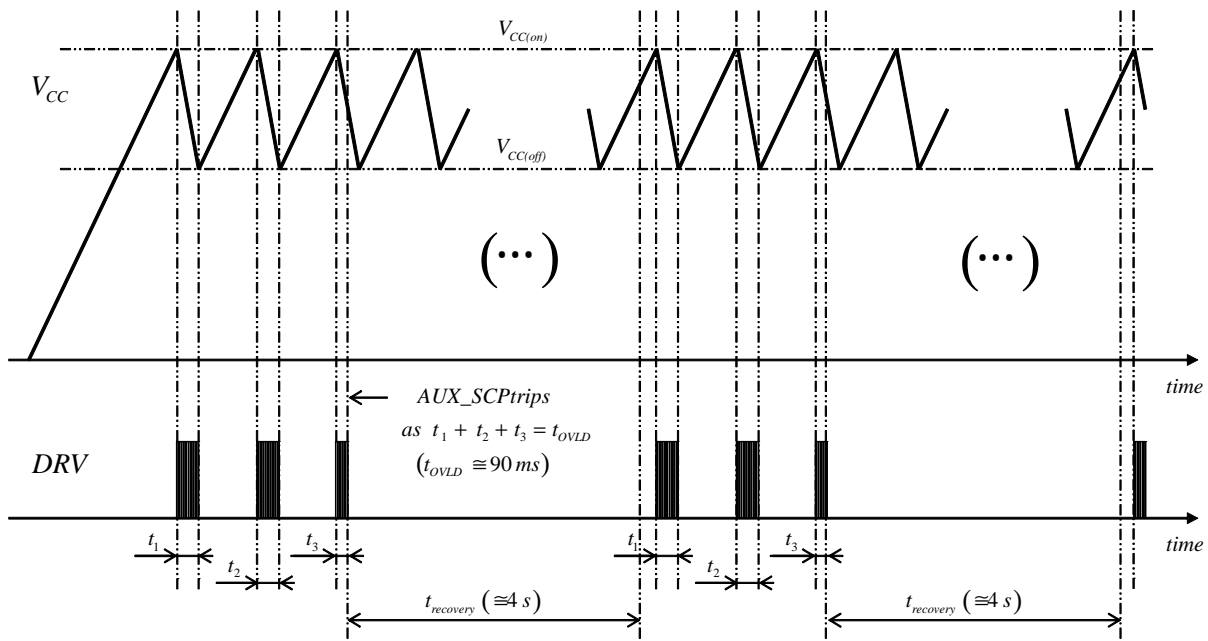

Figure 60. Start-up Sequence in a Load Short-circuit Situation (auto-recovery versions)
- If the load is shorted, the circuit will operate in hiccup mode with V_{CC} oscillating between $V_{CC(off)}$ and $V_{CC(on)}$ until the AUX_SCP protection trips (AUX_SCP is triggered if the ZCD pin voltage does not exceed 1 V within a 90-ms operation period of time thus indicating a short to ground of the ZCD pin or an excessive load preventing the output voltage from rising). The NCL30088A and NCL30088C latch off in this case. With the B and D versions, the AUX_SCP protection forces the 4-s auto-recovery delay to reduce the operation duty-ratio. Figure 60 illustrates a start-up sequence with the output shorted to ground, in this second case.